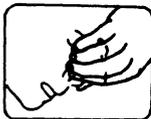

Figure 2
- a. With the head in a backward tilt as shown in Figure 1, continue to exert pressure on the victim's forehead with your hand while rotating this same hand so that you can pinch the victim's nostrils together with the thumb and index finger (Figure 2).